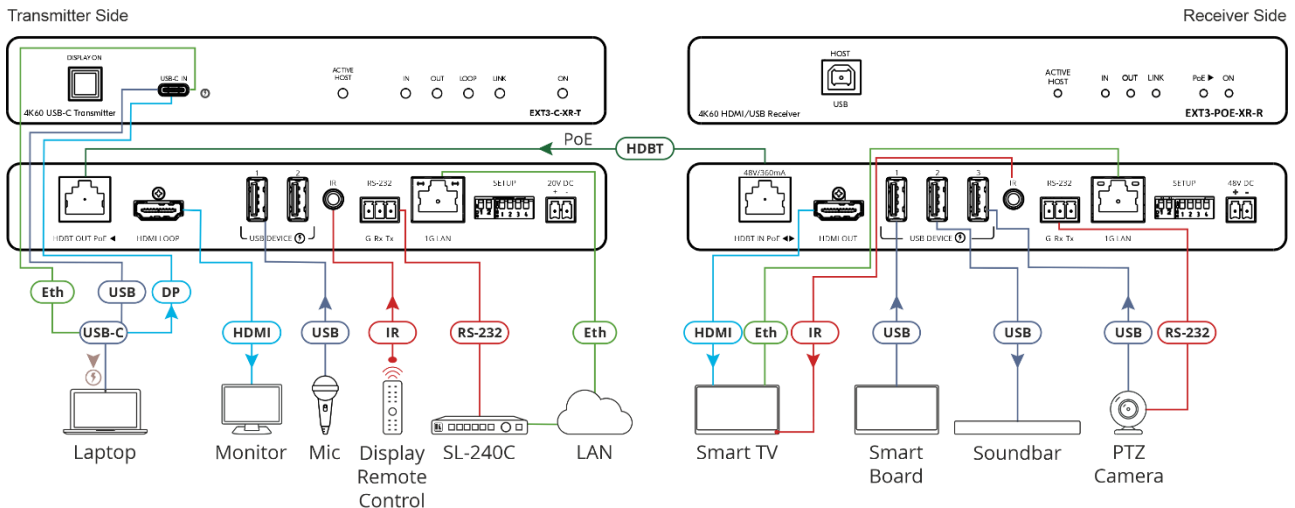

Figure 5: Connecting EXT3-C-XR-T to EXT3-POE-XR-R
i In the example in Figure 5, the connected USB devices, such as the mic or soundbar, are hosted via the transmitter's USB-C port (2). In this configuration, the receiver's host USB-B port (18) is inactive.
To connect EXT3-C-XR-T to EXT3-POE-XR-R as illustrated in the example in Figure 5:
10. Connect the power adapter to **EXT3-C-XR-T** and to the mains electricity (not shown in Figure 5).
11. Connect the power adapter to **EXT3-POE-XR-R** and to the mains electricity (not shown in Figure 5).